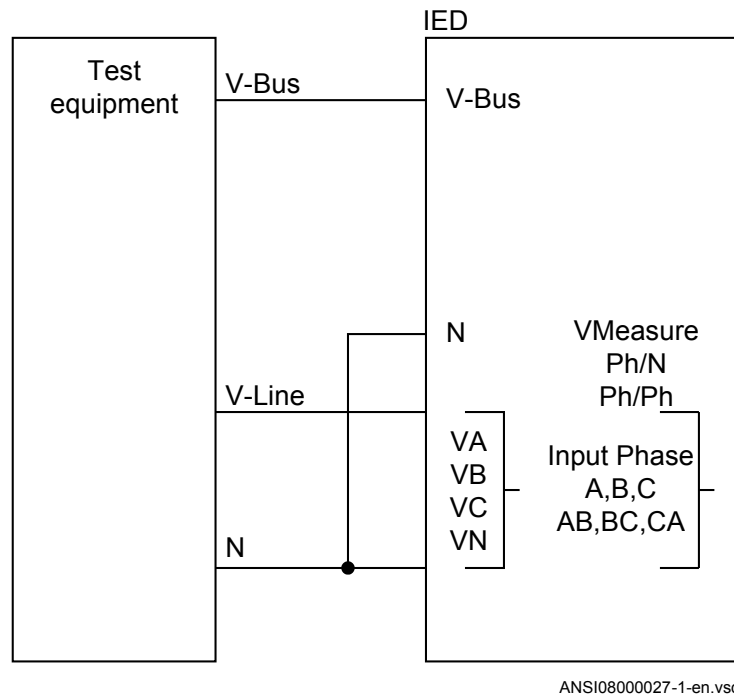

Figure 12: General test connection with three-phase voltage connected to the line side
1. Use the same basic test connection as in figure 12.